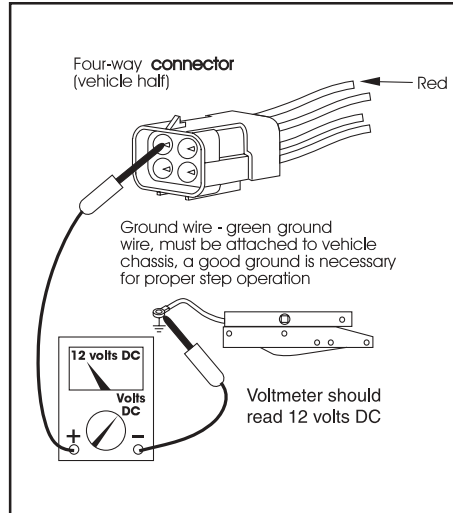

Figure 6 - Checking the main power source
12. To check the main power source, connect a voltmeter between the red wire from the 4-way connector (vehicle half) and the ground terminal at the end of the control unit's green ground wire (see Figure 6). The reading should be a minimum of 12 volts DC.